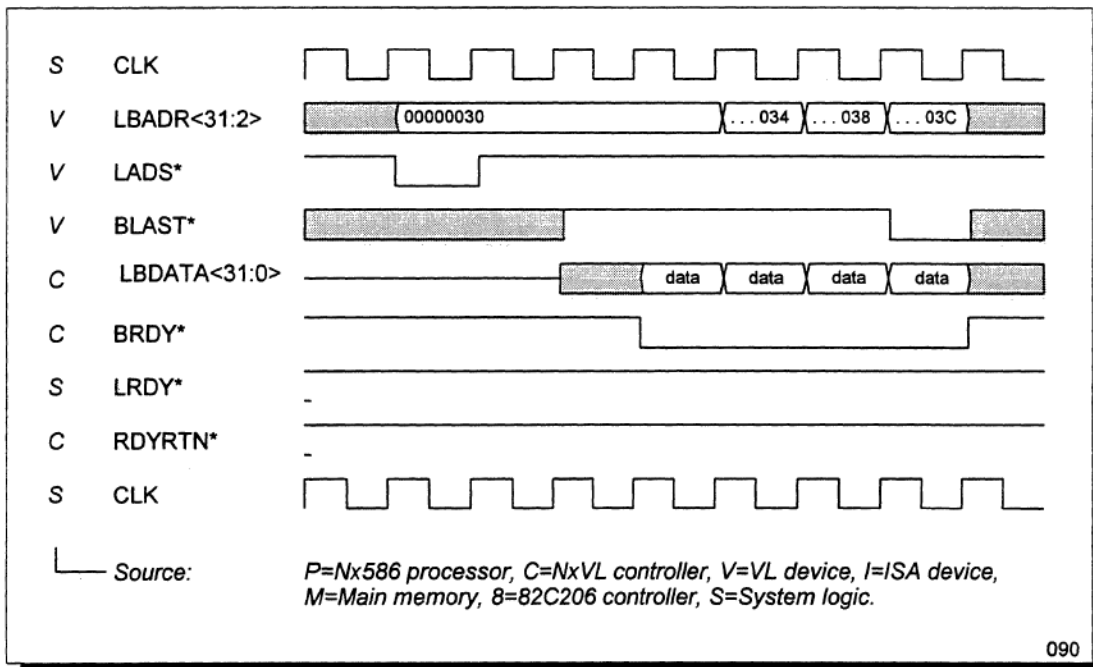

Figure 46 VL-Master 16-Byte Burst Read from Main Memory (Queue Hit)
termination of the cycle. In burst operations, BRDY* is asserted one clock earlier, as shown in Figure 46, below. The NxVL is designed with the assumption that most VL-bus devices will support bursts, so burst cycles are given a performance advantage over single cycles.
Figure 46 shows a VL-master 16-byte burst read from main memory that hits in the NxVL's read queue. The VL master drives the address, cycle-definition signals (not shown), and all byte-enable bits (not shown). At the same time, it asserts LADS*. The first address is latched one clock after LADS* goes inactive. BLAST* becomes valid at this same time and is held negated until the last of the four 32-bit transfers. The transfers begin when the NxVL asserts BRDY*, which is held asserted for all four transfers, during which time the VL
The example in Figure 46 does not include a snoop cycle on the NexBus because it assumes that the NxVL has found the status of the address among the last four snoop addresses that it stores. Any read cycle initiated by a VL master is treated as a MESI-protocol *exclusive* read. If the read hits the Nx586 processor's cache, the processor will (1) change its copy to the *invalid* state if the copy is in the *exclusive* state, or (2) intervene in the VL master's cycle to write-back its copy if it is in the *modified* state.